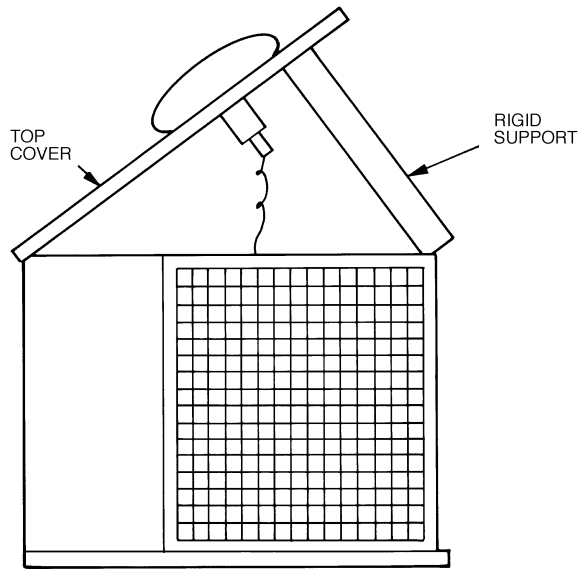

Fig. 31 — Pivot and Support Top Cover
2. Remove screws holding rear corner posts and top cover in place. Pivot top cover up 305 to 457 mm (12 to 18 in.) and support with a rigid support. See Fig. 31